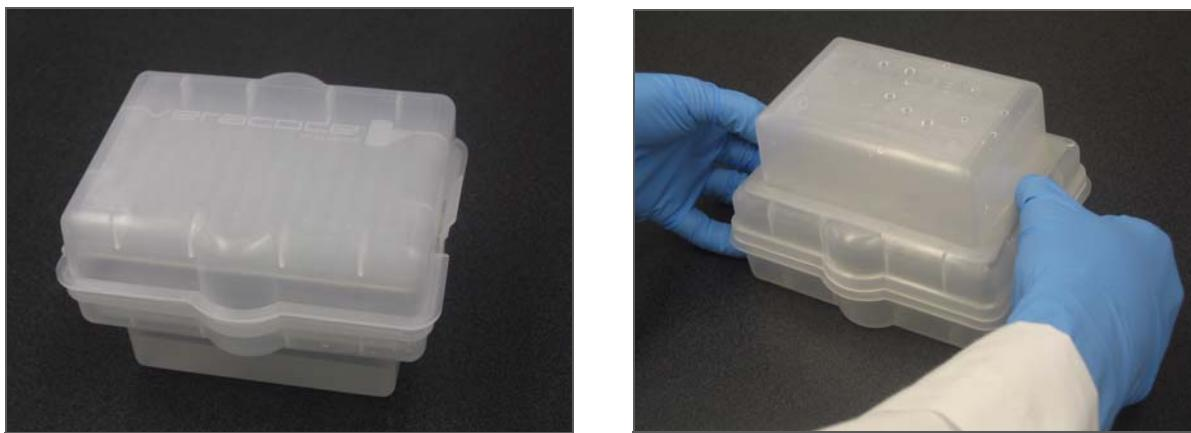

Figure 105 Flip VeraCode Bead Kitting System
- d. Tap the VeraCode Bead Kitting System firmly on the bench 5x to remove bubbles from the plate wells and funnel plate (Figure 105).